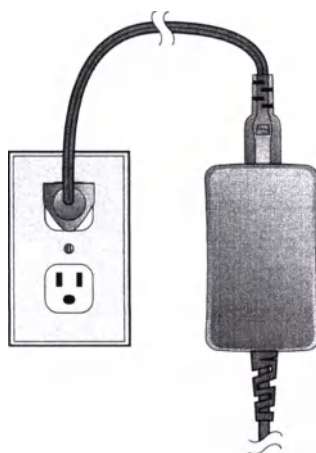

Figure 4.2 Plug in the AC power supply.
1. Plug the AC power supply into an AC outlet (Figure 4.2). A green light indicates it has power.